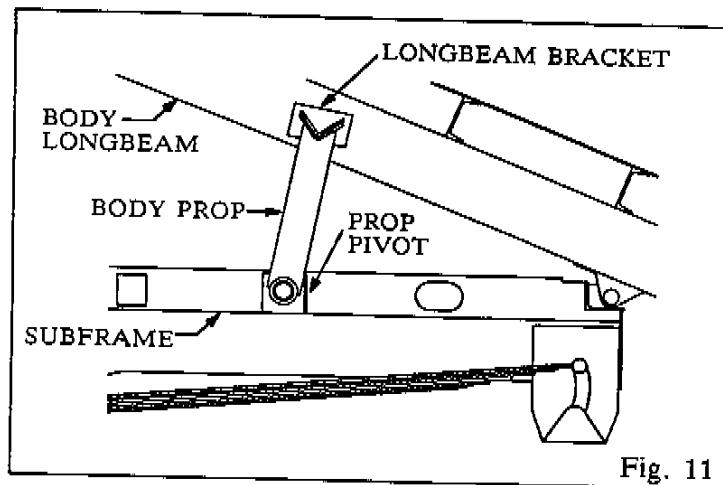

Fig. 11
3. Place the longbeam bracket assy in the body prop saddle. Raise or lower the body as needed to position the bracket on the outside of the longbeam where it will not interfere with the body prop when it is in the stored position and the body is down. Securely weld this bracket assy to the body. (See Fig. 11.)